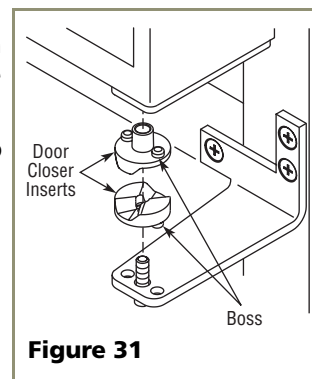

Figure 31
7. Reinstall the closers, lining up the bosses with holes in hinge and hinge plate (see **Figure 31**).